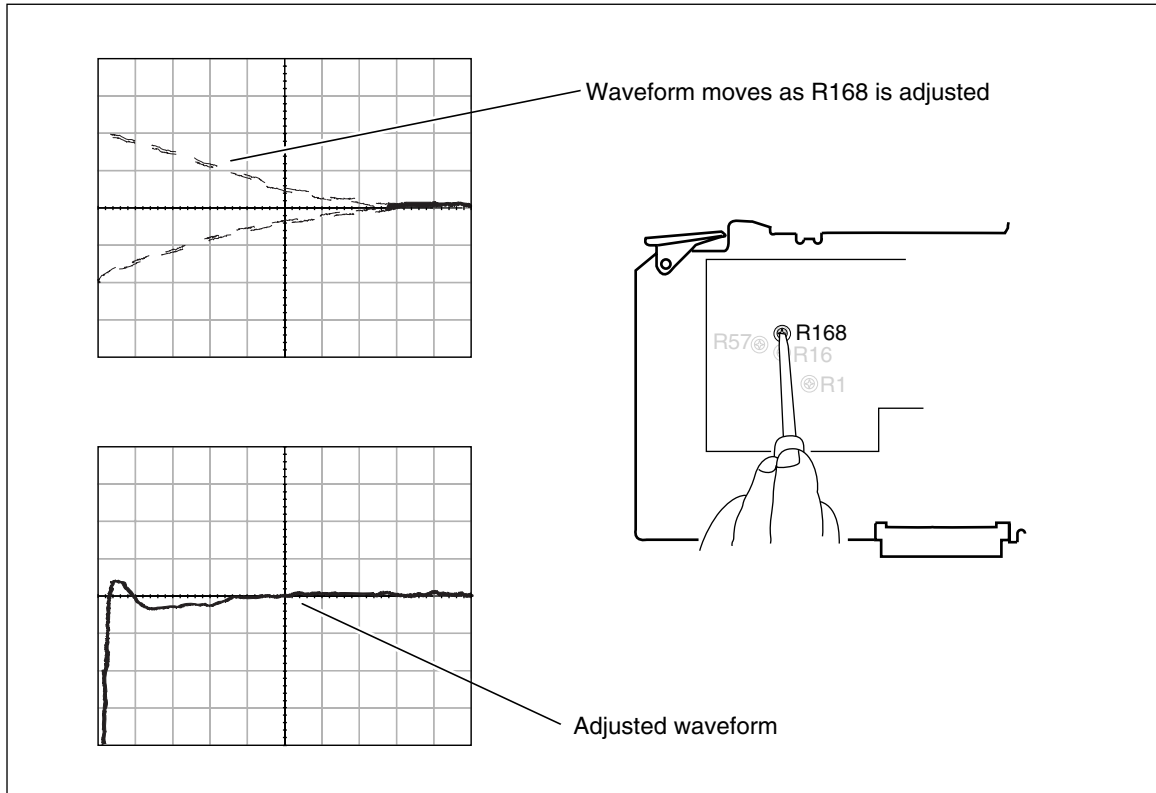

Figure 6-33. Adjusting the Wave Peak Center with R168
3. Slowly adjust pot R168 and observe its effect on the waveform. the left half of the wave peak will move up and down as you turn R168. Adjust R168 until the center of the wave peak is half of a division above the center line, as shown in Figure 6-33.